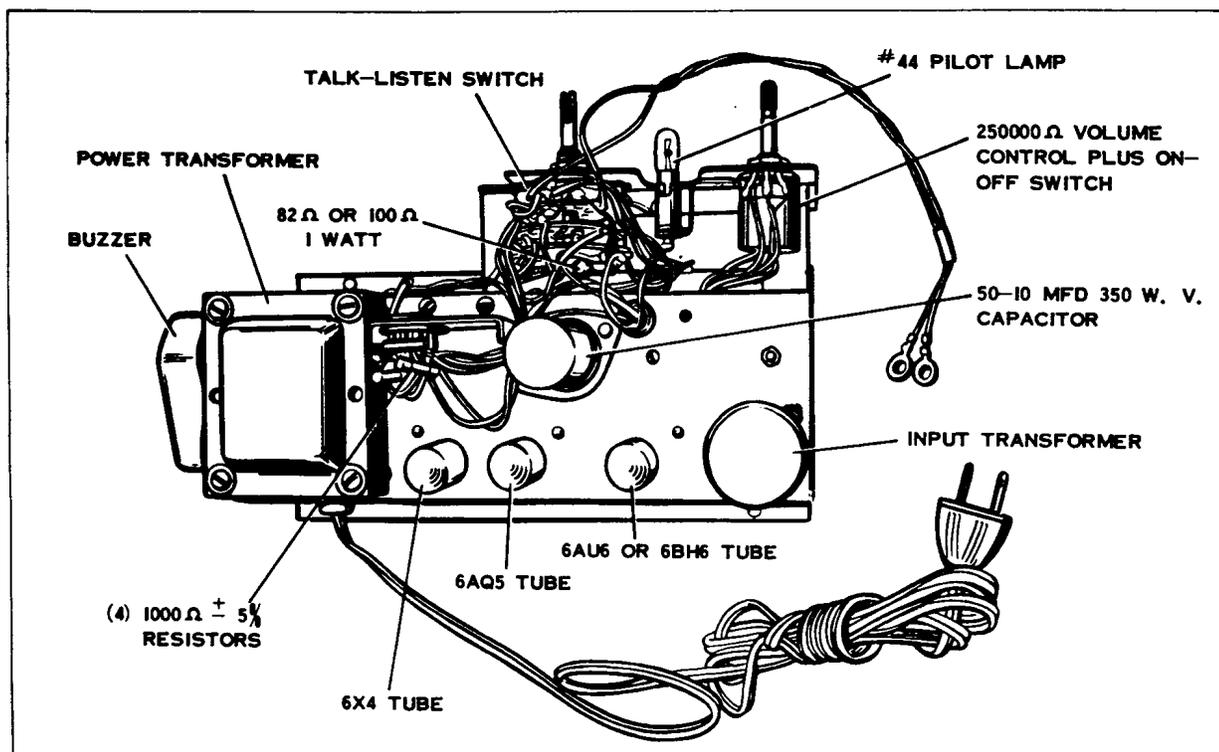

FIG. 6
- Figure 6 Master-Station Amplifier - Location of Components (Top View)